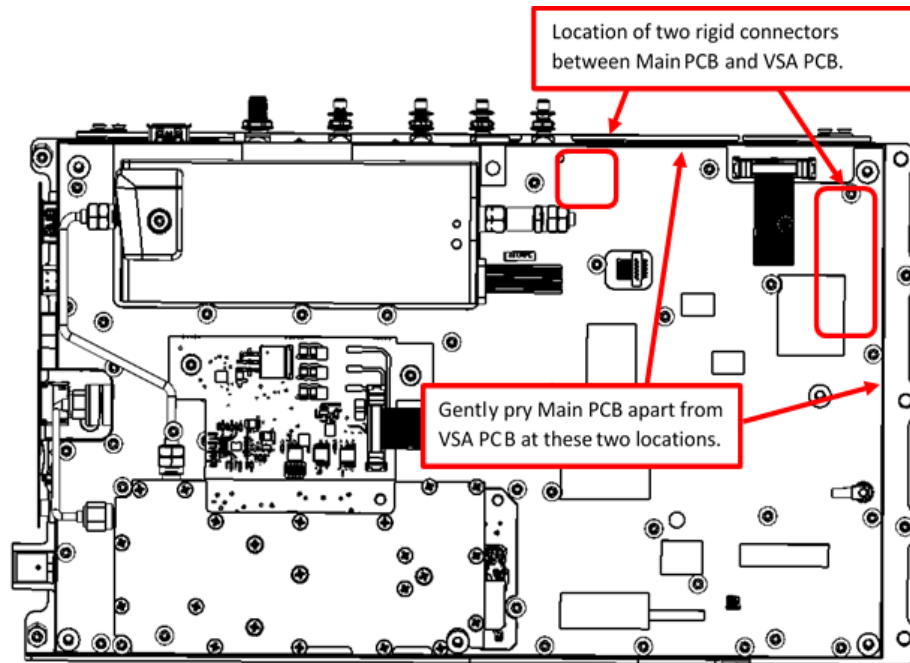

**Figure 5-13.** Main and VSA Connector Locations
10. There are two rigid connectors between the Main and VSA PCB's that cannot be seen until the two PCB's are separated. Figure 5-13 shows the location of these hidden connectors and where to gently pry the two PCB's apart.